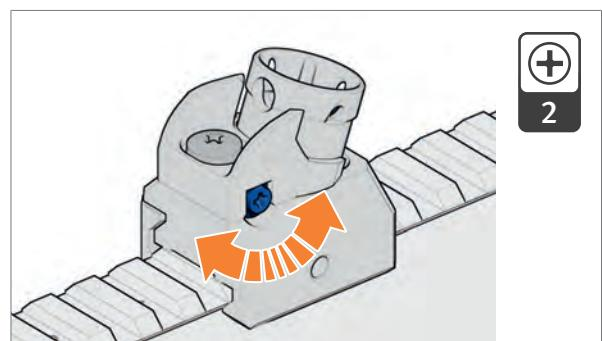

Fig. 82: Turn the windage adjustment screw
2. Turn the windage adjustment screw in the desired direction with a screwdriver (Fig. 82).
› Turn windage adjustment screw anti-clockwise (Fig. 82).	One turn alters the position of the impact point by approx. 5.5 cm at a range of 100 m.
› Turn windage adjustment screw clockwise (Fig. 82).